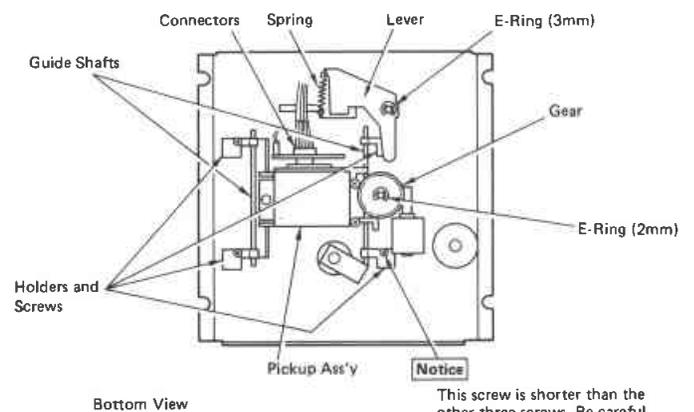

Fig. 5
- 2) Remove the E-ring ($\phi = 3$ mm) which fixes the rotary shaft of the lever, and remove the spring. (Fig. 5)
- 6) Remove four screws and take off four holders which hold two guide shafts. (See the Notice in the Fig. 5)